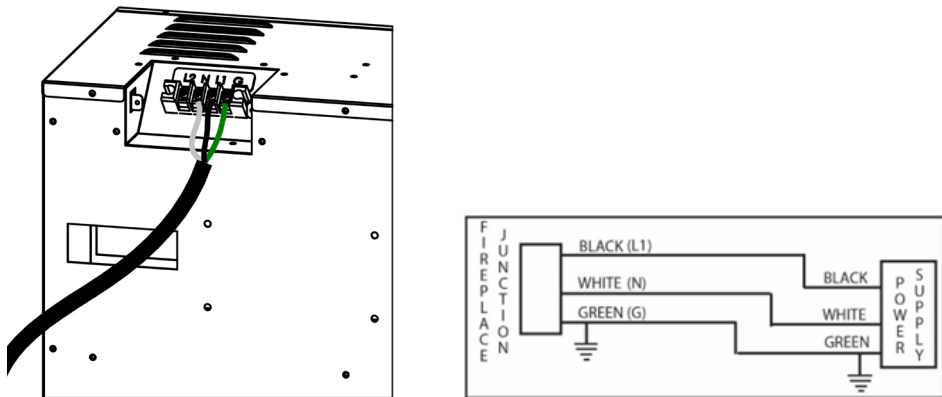

Fig. 5-2
- From the power supply wire, connect the green/bare copper wire to ground (**G**), the white wire to neutral (**N**), and the black wire to Line1 (**L1**) (Fig. 5-2).